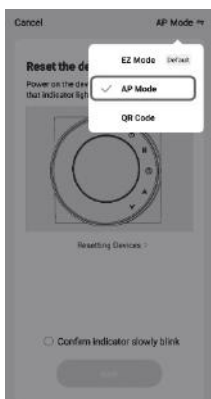

Fig. 9
- When the thermostat is off, press and hold the “∇” until the thermostat screen flashes slowly and the “📶” icon is displayed (if the “📶” icon appears, continue to press the “∇” until the thermostat screen flashes slowly and displays the “📶” icon), and then operate according to the following figure (Fig.9-Fig.14 + Fig. 8)